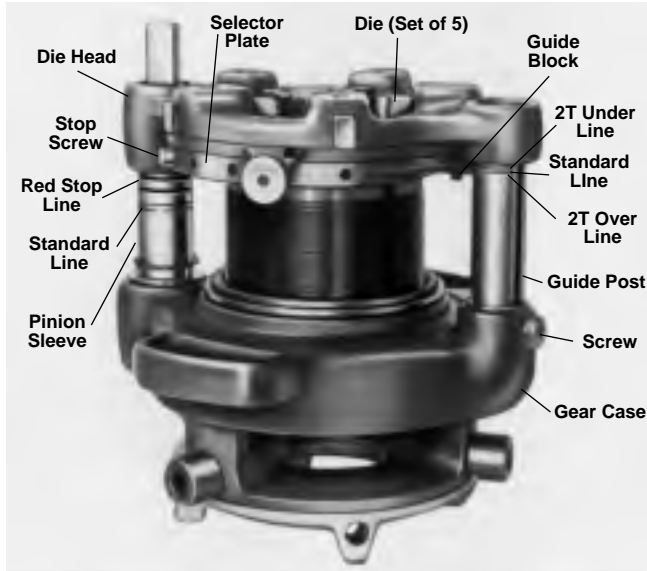

Figure 14 – No. 141 Geared Threader showing Pinion Sleeve and Guide Post Reference Lines
straight thread, or tapered slot inward for tapered thread. *Figure 14* shows guide post set to cut tapered thread.
1. Remove stop screw (*Figure 14*) from selector plate.
3. Remove worn die set (*Figure 14*) and insert new die set.
5. Release foot switch when red STOP line appears on pinion sleeve (Figure 14).
3. Flood dies with RIDGID Thread Cutting Oil using RIDGID 418 Oiler during threading operation to assure long die life. 141 and 161 – Release foot switch when red stop line appears on pinion sleeve. (Figure 14)